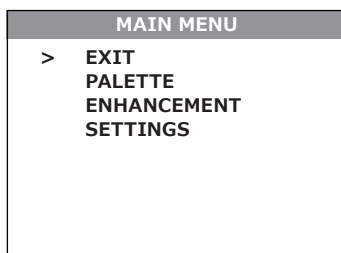

FIGURE 3-7. MAIN MENU
Once the MAIN MENU is displayed (Figure 3-7), use buttons (1) and (2) to navigate through items on the menu.